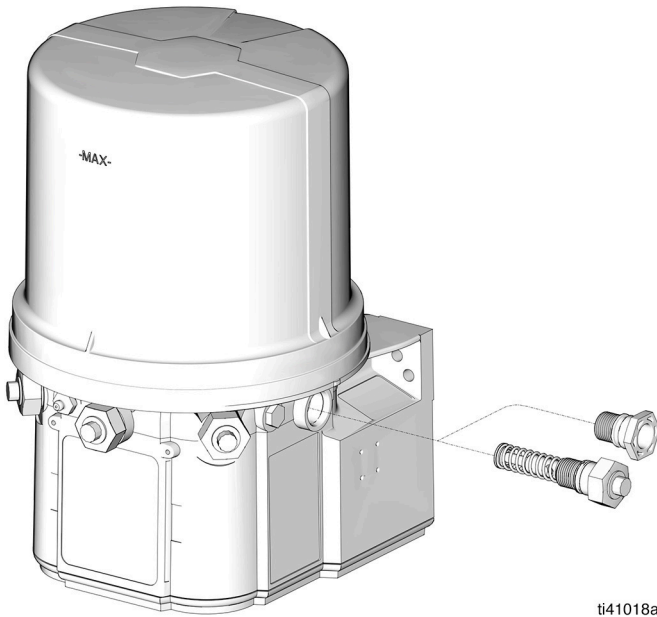

FIG. 16
3. Remove the pump element and replace with a plug (torque fitting to 50 in-lb (5.6 N•m)) (FIG. 16).